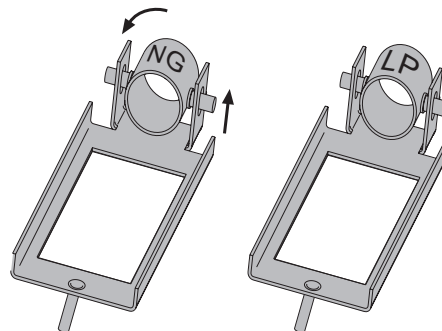

Figure 22. Primary air shutter orientation must be changed for fuel type.
6. Change the Air Shutter position: Lift the shutter tube up in its hinge pin slots and turn the tube over, so that the appropriate fuel type indicator (LP or NG) is oriented facing you. See fig. 22. Push the shutter all the way back over the injector.